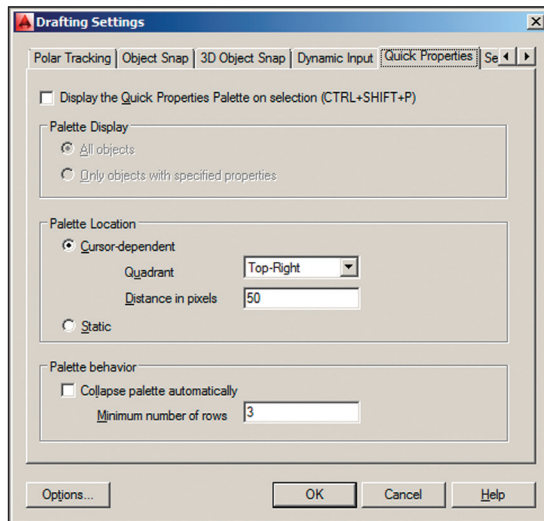

FIGURE 6.9 Drafting Settings dialog box
1. Type `DS` and press `Enter`. Select the Quick Properties tab of the Drafting Settings dialog box and uncheck `Display The Quick Properties Palette On Selection` (see Figure 6.9). Click `OK`.